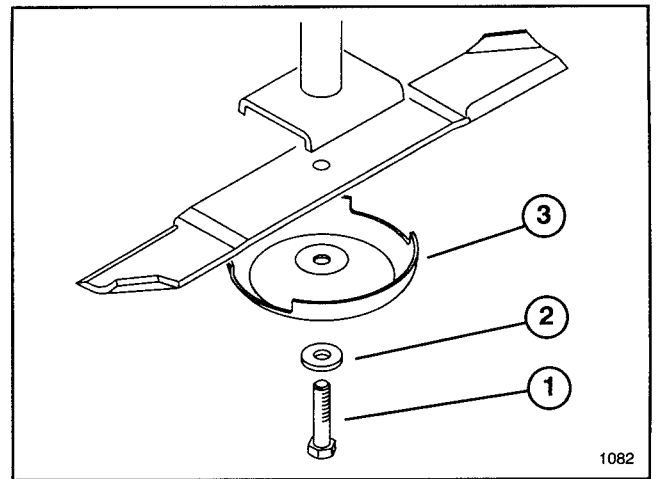

Figure 15
2. Hold the blade end using a rag or thickly padded glove. Remove blade bolt, flatwasher, anti-scalp cup and blade from spindle shaft (Fig. 15).
3. Install blade-sail facing toward cutting unit with anti-scalp cup, flatwasher and blade bolt (Fig. 15). Torque blade bolt to 85–110 ft. lb. (115–150 Nm).